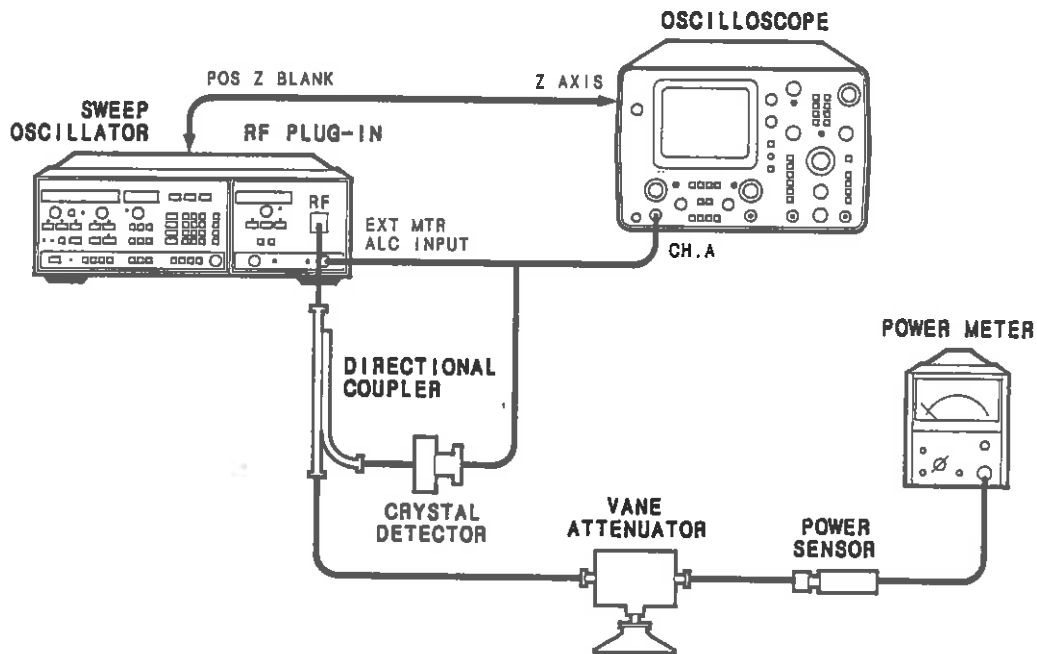

Figure 4-4. Crystal Detector Leveling Test Setup
4. Connect the equipment as shown in figure 4-4. Set the vane attenuator to 10 dB.